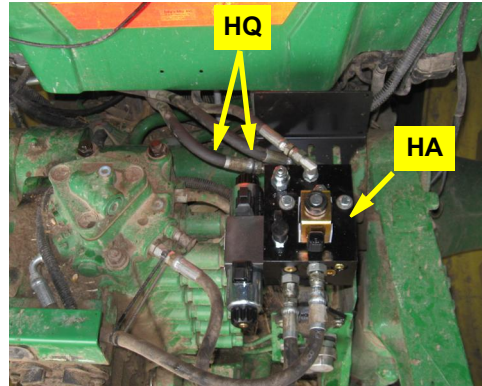

Figure 4b: Steering output hoses connected to A and B ports on the steering block (LS hose and P and T hoses also shown connected - see step 8)
- b. Connect the steering output hoses **HQ** to the **A** and **B** ports of the hydraulic steering block (Figure 4b).